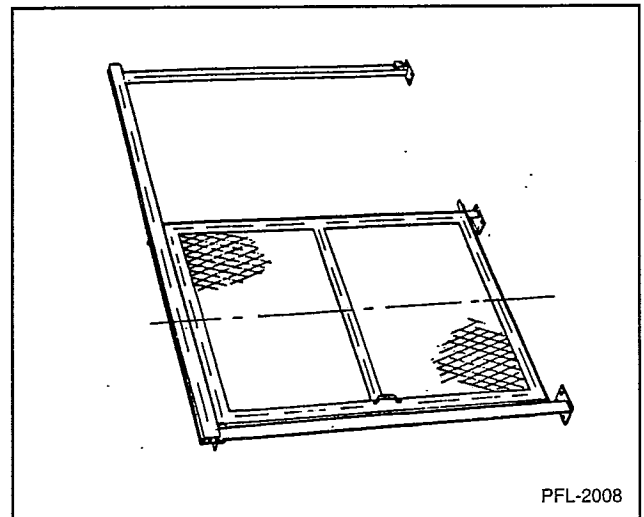

Figure 3
4. Slide gate to its closed position. Locate and mark center of the gate. See Figure 3.